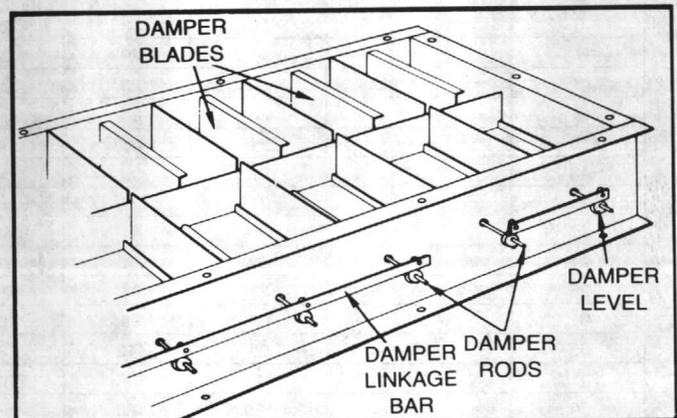

FIGURE 17 - Setting the Zone Damper Rods and Damper Linkage
Dampers on all units must be adjusted to ensure proper operation. See Figure 17.
3. Cut the damper linkage bar at the last lever. Figure 17 illustrates an example that uses two damper segments.